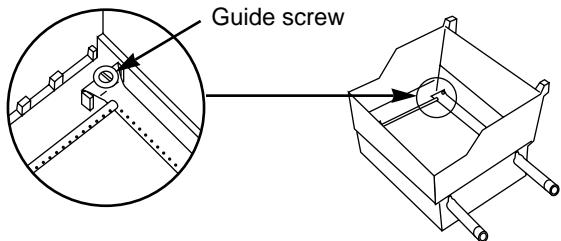

Figure 11
f) Slide the burner assembly out from under the guide screw and washer in the corners of the cooking box. Figure 11.